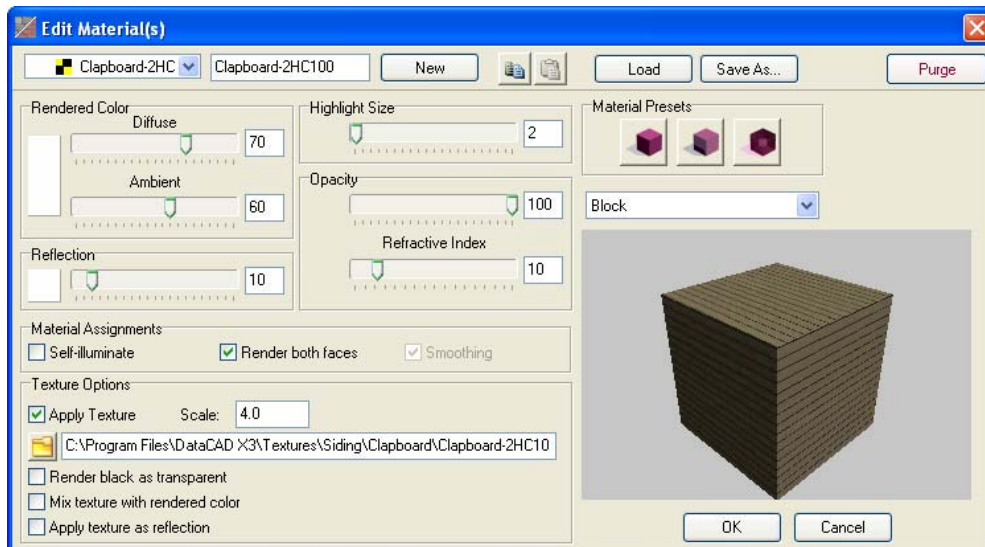

Figure 22.21: The decisions you make affect the Preview model.
6. Select Object Viewer from the View menu. The Object Viewer appears. The decisions that affect the STUCCO layer (see Figure 22.21) appear in the Object Viewer. If you are unhappy with the way the material looks, you can return to step 1 and go through the process again.